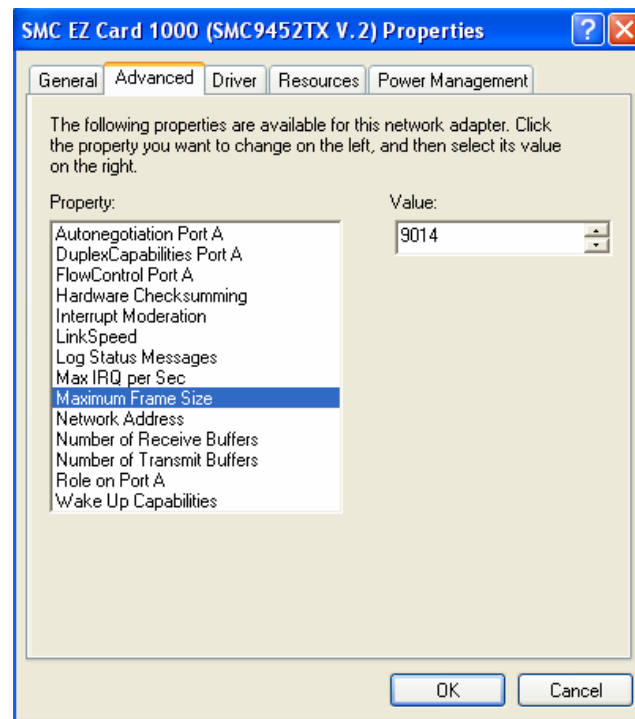

Figure 10. Network card advanced settings.
- From the Properties window select **Configure** then select the **Advanced** tab. See Figure 10.